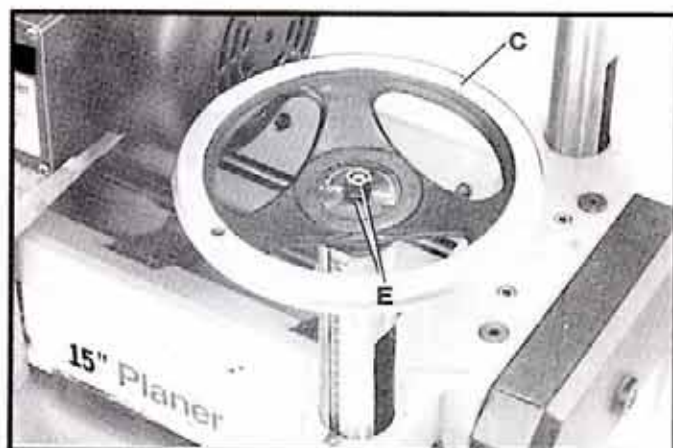

Fig. 8
4. Fasten handwheel (C) Fig.8, to raising and lowering shaft using flat washer and nut (E) supplied.